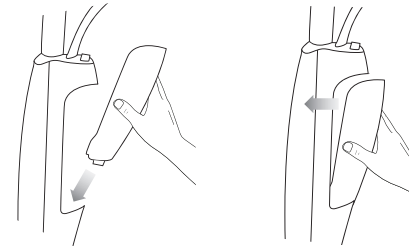

Figure 4
3. To adjust the height of Telescopic Pole, press and hold Extension Lock downward (Figure 3). While holding Extension Lock down, move Telescopic Pole until it is adjusted to the desired height. Release Extension Lock, then move Telescopic Pole again until it “clicks” securely into place (Figure 4).
3. Replace Water Tank by inserting Water Tank Cap inside the cavity of Mop Body, then push Water Tank forward until locked into place (Figure 4).